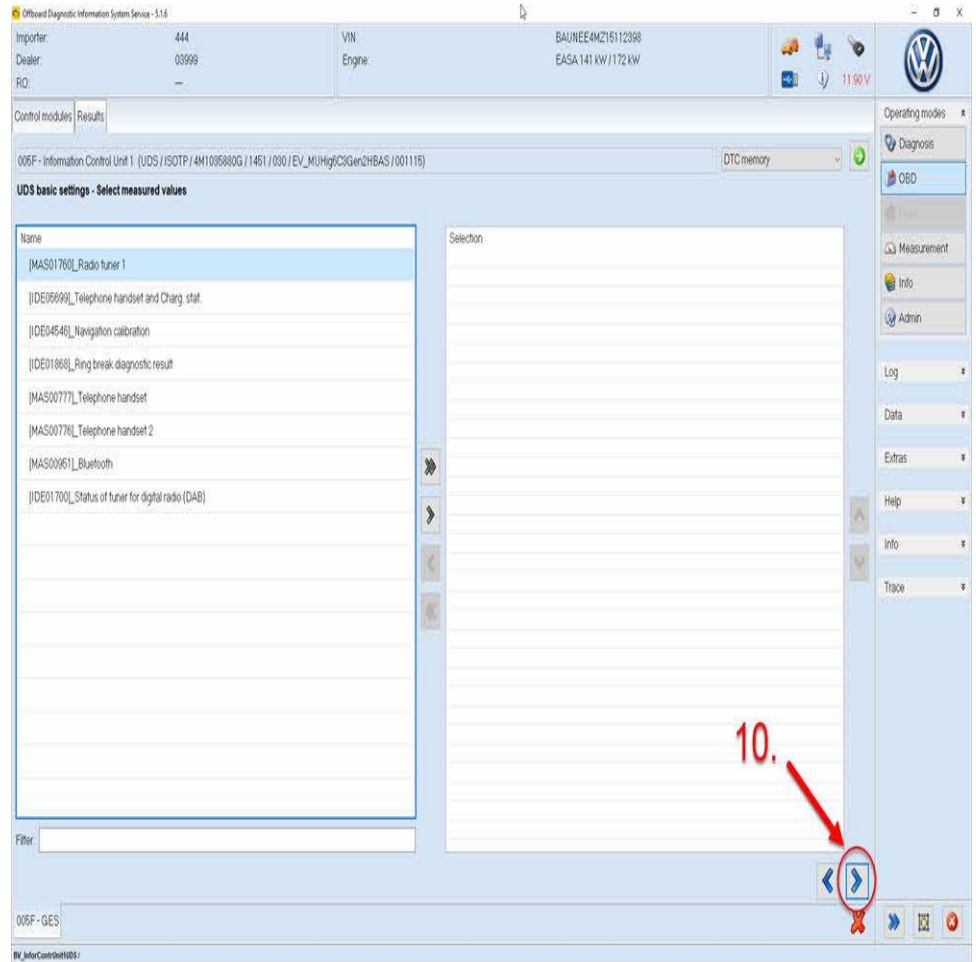

Figure 7. Select next.
6. Click “Next” one more time (10) (Figure 7).